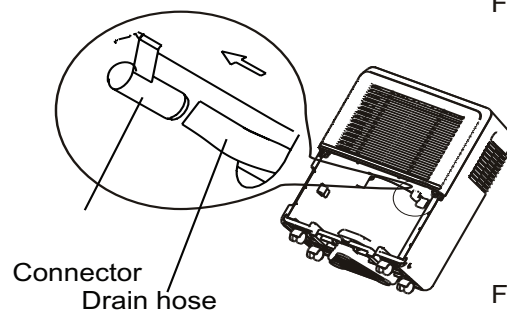

Fig.9
- Remove the plastic cover from the back drain outlet of the unit and set aside. Remove bucket, then insert the drain hose through the drain outlet of the unit and securely press it into the connector, on the front of the unit. (See Fig. 9)